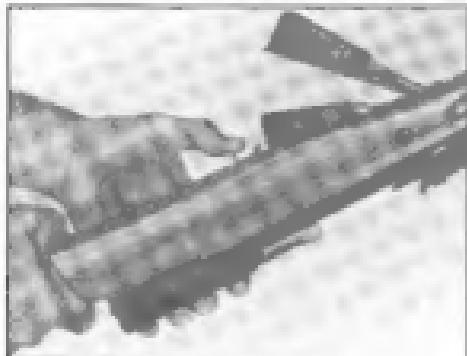

Figure 5
4. Release the magazine cover by pulling back the magazine cover latch. (Figure 5)